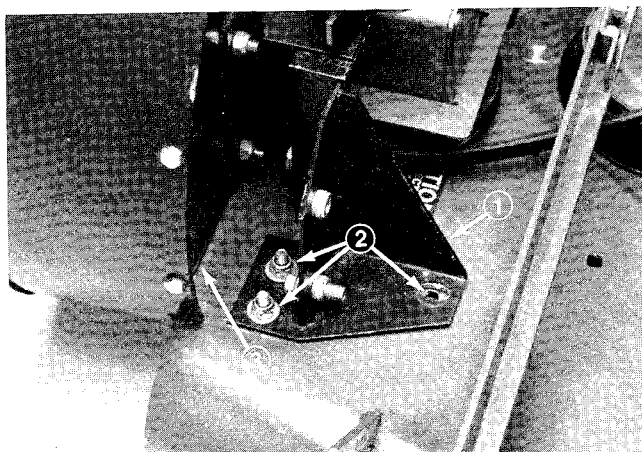

Figure 5
6. Position blower assembly onto cutting unit. Align front bracket with (3) mounting holes in deck and rear bracket with rearmost deflector mounting hole (Fig. 5 & 6). Make sure blower is flush with deck opening.